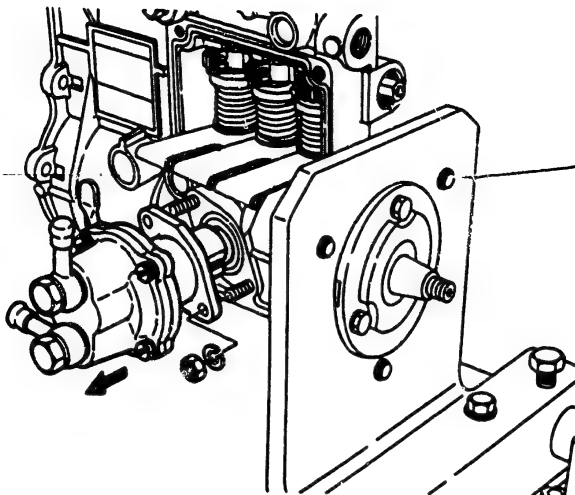

**Fig. 54 Components of torque control device**
**3. Fig. 54 shows the components of the torque control device.**